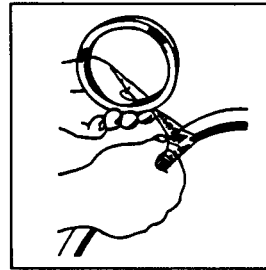

Figure 9
2. Wind a 2-inch-wide layer of masking tape approximately 4 inches from either end of the cut V-ring seal (Figure 9).